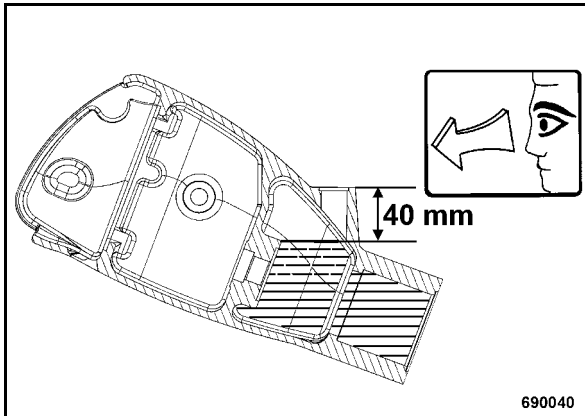

Fig. 67
- Check whether the hydraulic oil level is approx. 40 mm below the filler opening (Fig. 67), top up if necessary.